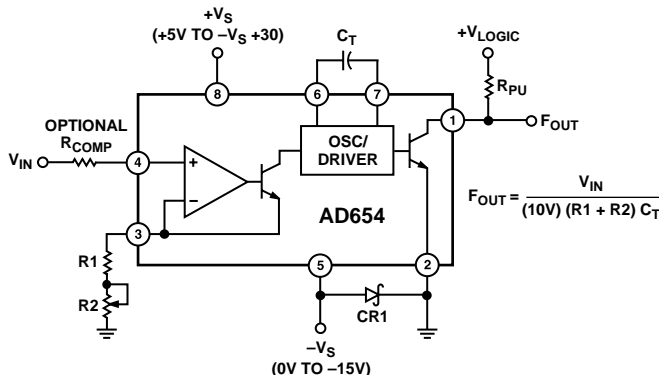
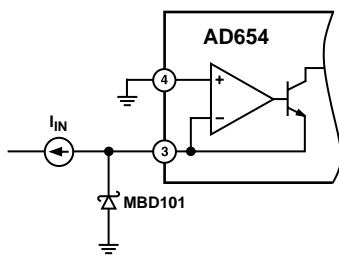

Figure 1. Standard V-F Connection for Positive Input Voltages
Figure 5. Input Protection
The AD654's block diagram appears in Figure 1. A versatile operational amplifier serves as the input stage; its purpose is to convert and scale the input voltage signal to a drive current in the NPN follower. Optimum performance is achieved when, at the full-scale input voltage, a 1 mA drive current is delivered to the current-to-frequency converter (an astable multivibrator). The drive current provides both the bias levels and the charging current to the externally connected timing capacitor. This "adaptive" bias scheme allows the oscillator to provide low nonlinearity over the entire current input range of 100 nA to 2 mA. The square wave oscillator output goes to the output driver which provides a floating base drive to the NPN power transistor. This floating drive allows the logic interface to be referenced to a level other than  $-V_S$ .
In the connection scheme of Figure 1, the input amplifier presents a very high (250 MΩ) impedance to the input voltage, which is converted into the proper drive current by the scaling resistors at Pin 3. Resistors R1 and R2 are selected to provide a 1 mA full-scale current with enough trim range to accommodate the AD654's 10% FS error and the components' tolerances. Full-scale currents other than 1 mA can be chosen, but linearity will be reduced; 2 mA is the maximum allowable drive. The AD654's positive input voltage range spans from  $-V_S$  (ground in sink supply operation) to four volts below the positive supply. Power supply rejection degrades as the input exceeds  $(+V_S - 3.75 \text{ V})$  and at  $(+V_S - 3.5 \text{ V})$  the output frequency goes to zero.
As indicated by the scaling relationship in Figure 1, a 0.01 μF timing capacitor will give a 10 kHz full-scale frequency, and 0.001 μF will give 100 kHz with a 1 mA drive current. Good V/F linearity requires the use of a capacitor with low dielectric absorption (DA), while the most stable operation over temperature calls for a component having a small tempco. Polystyrene, polypropylene, or Teflon\* capacitors are preferred for tempco and dielectric absorption; other types will degrade linearity. The capacitor should be wired very close to the AD654. In Figure 1, Schottky diode CR1 (MBD101) prevents logic common from dropping more than 500 mV below  $-V_S$ . This diode is not required if  $-V_S$  is equal to logic common.
The AD654 was designed to be used with a minimum of additional hardware. However, the successful application of a precision IC involves a good understanding of possible pitfalls and the use of suitable precautions. Thus  $+V_{IN}$  and  $R_T$  pins should not be driven more than 300 mV below  $-V_S$ . Likewise, Logic Common should not drop more than 500 mV below  $-V_S$ . This would cause internal junctions to conduct, possibly damaging the IC. In addition to the diode shown in Figures 1 and 2 protecting Logic Common, a second Schottky diode (MBD101) can protect the AD654's inputs from "below  $-V_S$ " inputs as shown in Figure 5. It is also desirable not to drive  $+V_{IN}$  and  $R_T$  above  $+V_S$ . In operation, the converter will exhibit a zero output for inputs above  $(+V_S - 3.5 \text{ V})$ . Also, control currents above 2 mA will increase nonlinearity.